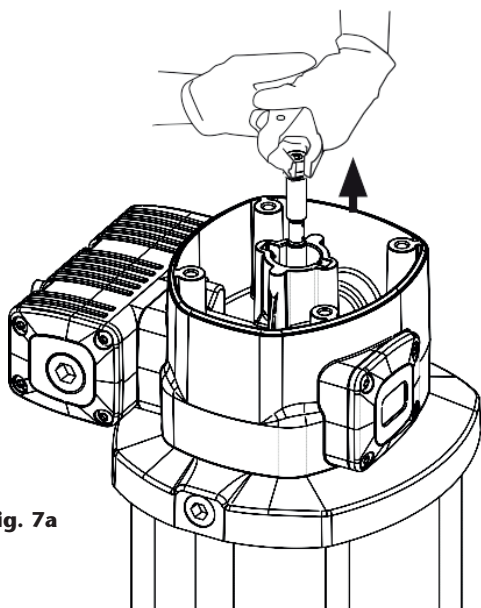
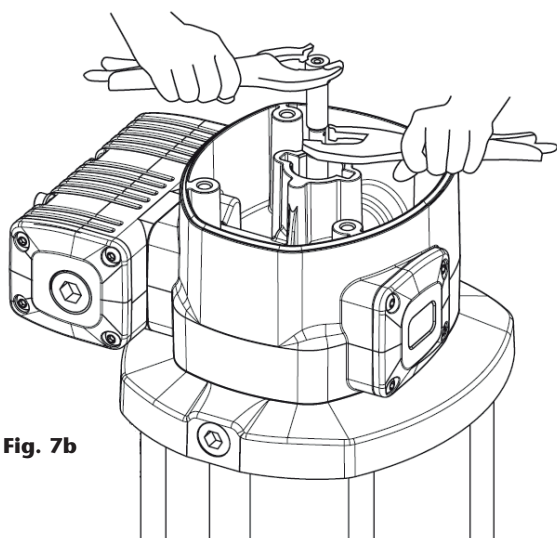

Fig. 7a
Fig. 7b
1. Unscrew the bolts (2) and remove the cap (3).
2. Unscrew the sensor sleeve (4).
3. With a manual clamp on the nut (5), pull the rod (47) outwards until its central recess appears (fig. 7a). Then, with another manual clamp, grab the rod (47) on said recess to prevent sealing surface to be damaged, and unscrew the nut (5) (fig. 7b).
4. Remove o-ring (6) and ring (7), and replace them with new ones later.
5. Unscrew the bolts (56). Pull the motor body (13) outwards to free it along with bridle (36).
6. Take away the gasket (9) and replace its seals (8) and (10).
7. Unscrew the bolts (37) and split the motor (13) from the flange (36). Take away the washer (32) and replace the seal (8).
8. Take away the cylinder (53) while carefully holding the air piston (44). Replace the piston seal (39).
9. Remove the upper spring clip (57) and unscrew the piston assembly (44).
10. Replace the U-ring (51) and the slide rings (52).
11. Reassemble in reverse order, applying thread locker in screws (56), (37), nut (5) and sensor sleeve (4).